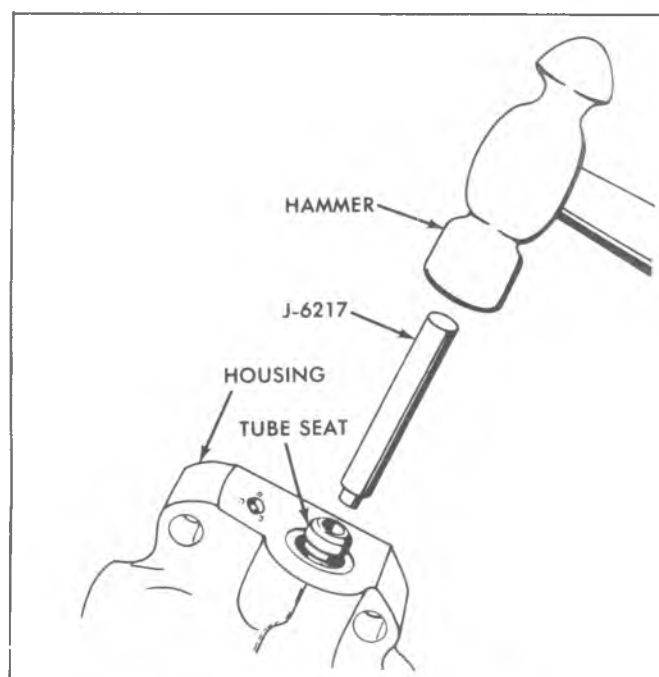

Fig. 5-11E--Installing Tube Seat Using J-6217
1. Install tube seat with Tool J-6217 as shown in Figure 5-11E.